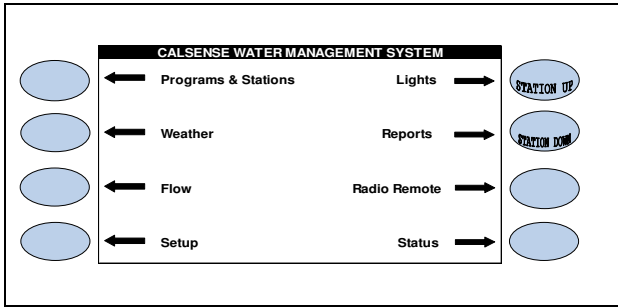

Figure 1
2. Press the **WEATHER** menu key (Figure 1).
24.  Press the **MAIN MENU** key to return to the **MAIN MENU** screen (Figure 1).